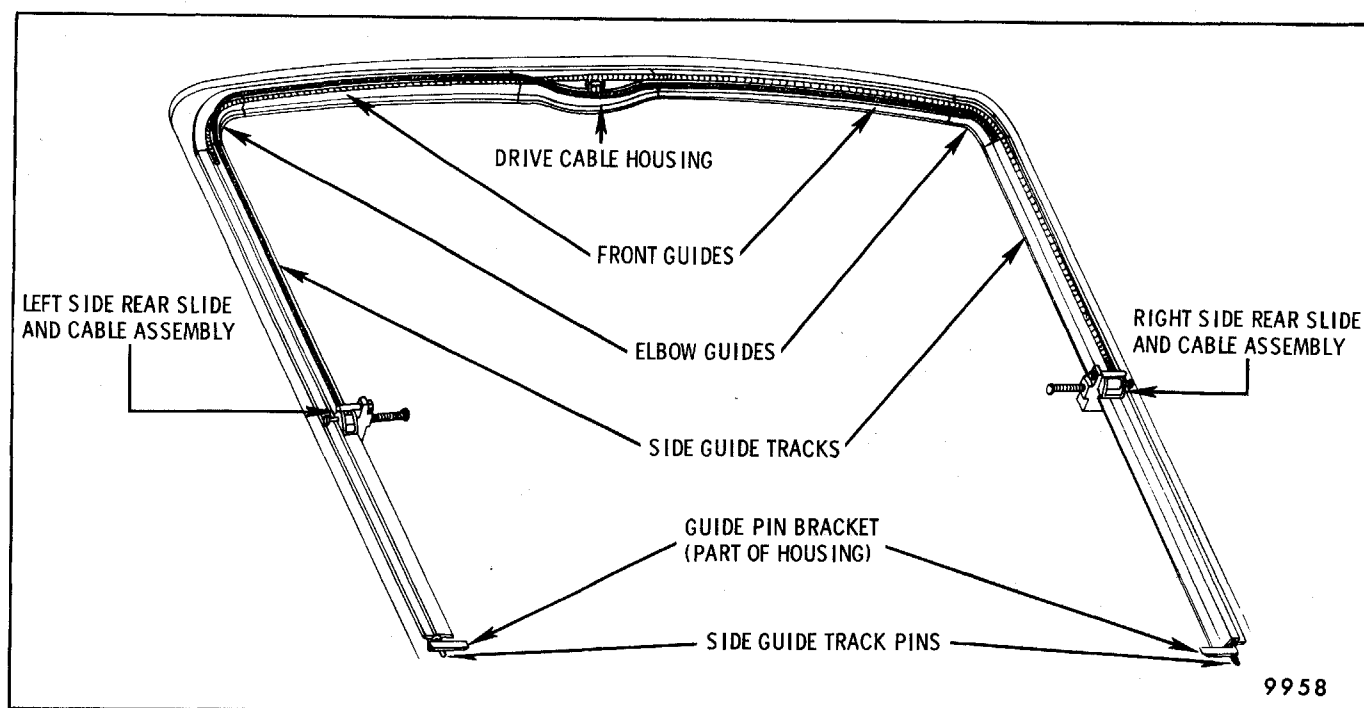

Fig. 8-102-Drive Cable Routing - E and K Styles
4. Insert ends of drive cables into guides as in routing diagram (Fig. 8-102). Lubricate cables and drive gear with Lubriplate or equivalent.